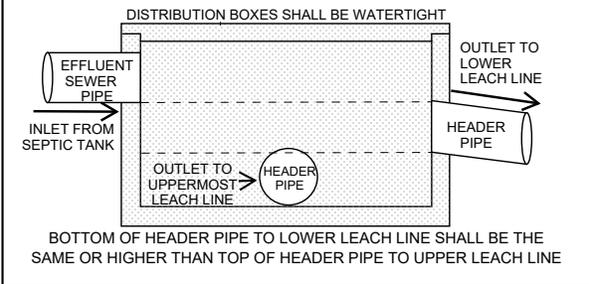

**FIGURE 6 - SERIAL DISTRIBUTION DETAILS**
- b. **Serial Distribution** *(Figure 6)* is when the effluent from the septic tank only flows into the first leach line until the first leach line is full, at which point it will then flow to the second leach line, and so on. This can be achieved by a series of D-Boxes or crossovers. See above for D-Box requirements. For crossovers, see the following: